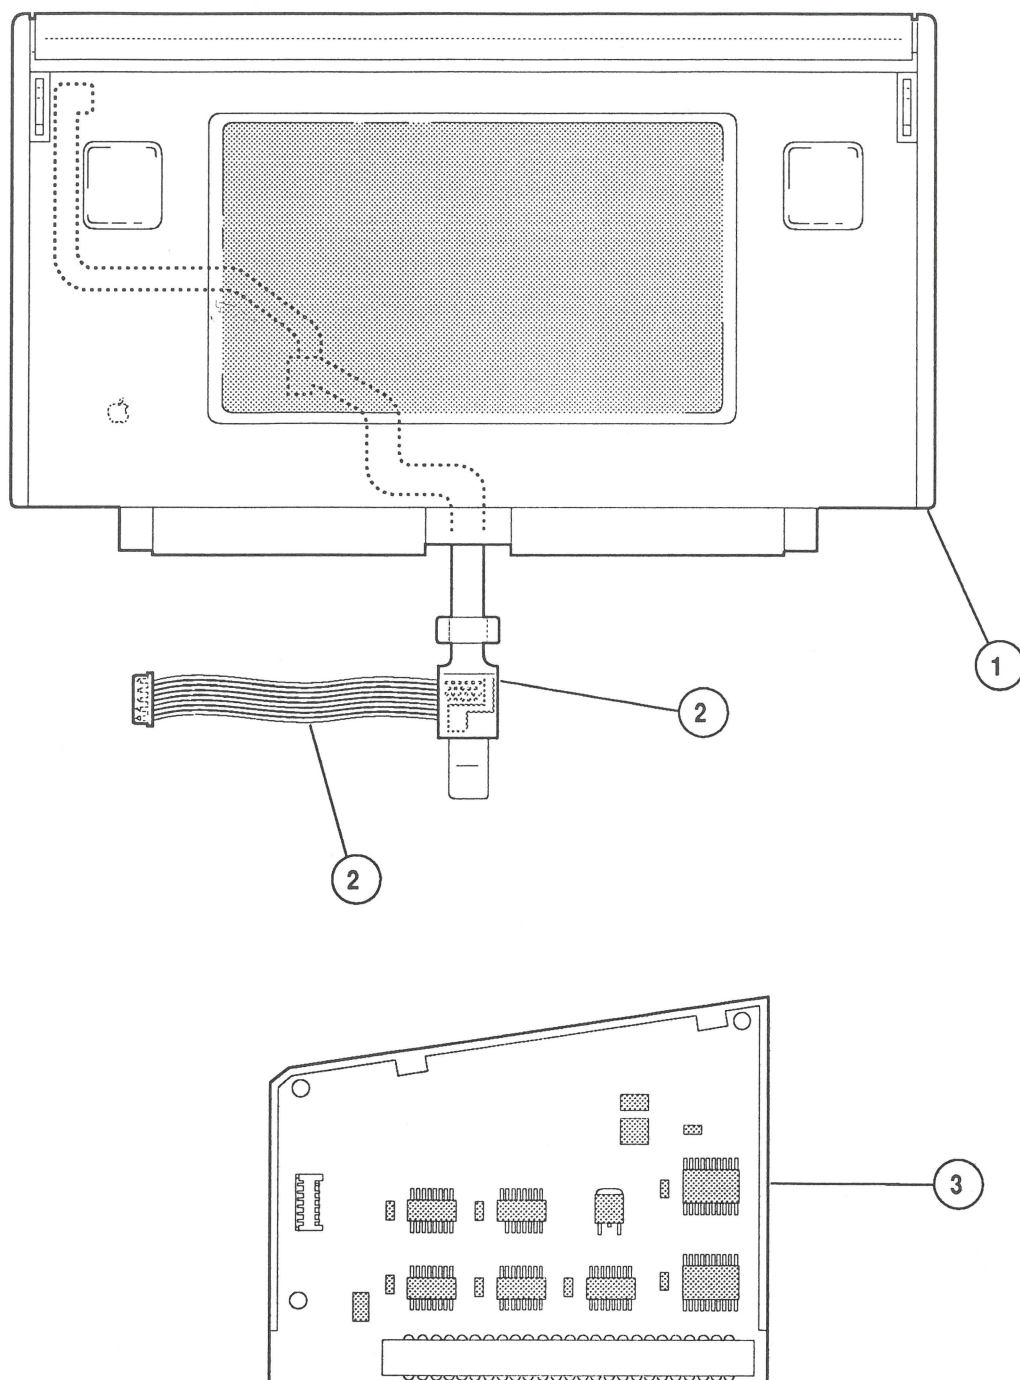

FIGURE 14
□ BACKLIT DISPLAY UPGRADE (Figure 14)